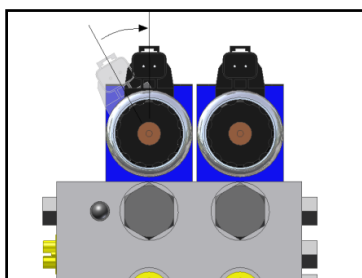

Figure 18: Align Coils
1. Verify the valve coil connectors are oriented vertically (Figure 18). Loosening the large plastic nut will allow the connector to be rotated.